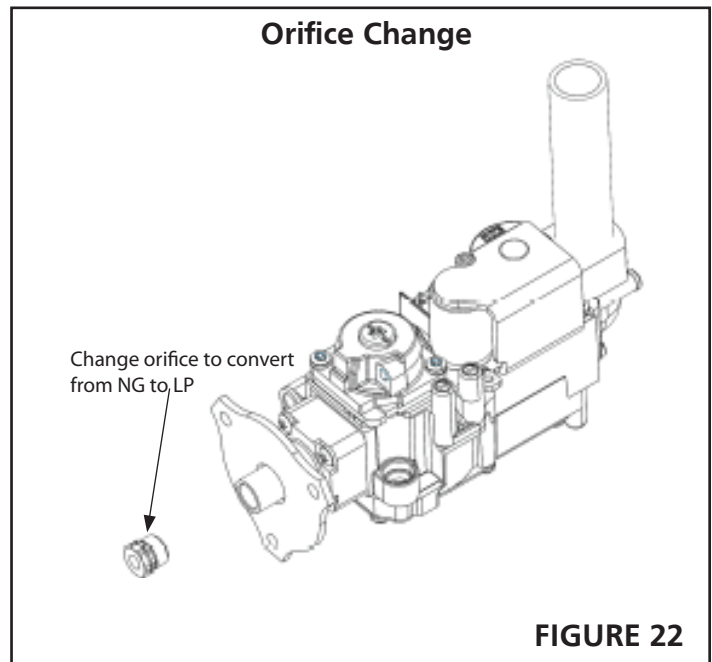

FIGURE 22
4. Once the valve assembly has been removed, replace the NG nozzle with the LP nozzle using a "13 key". See Figures 22 and 21. The nozzle is supplied by Heat Star. Verify the orifice drill size in Table 1.